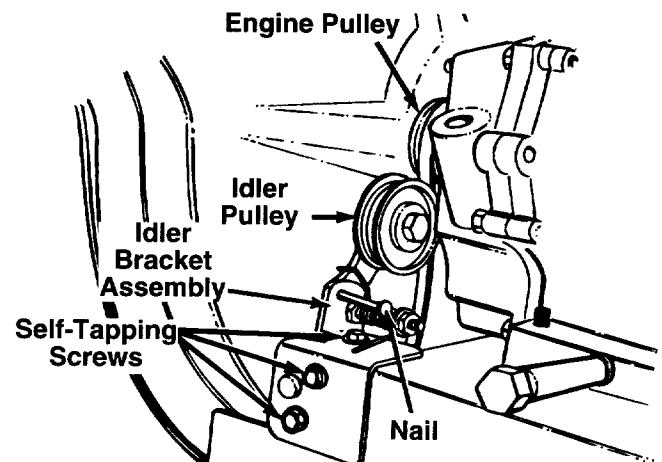

FIGURE 26.
- Remove the idler pulley bracket as follows. See figure 26.
- Remove the hex bolt and lock washer from the engine pulley. See figure 26. Slip the engine pulley off the engine shaft, and remove the belt from the pulley.